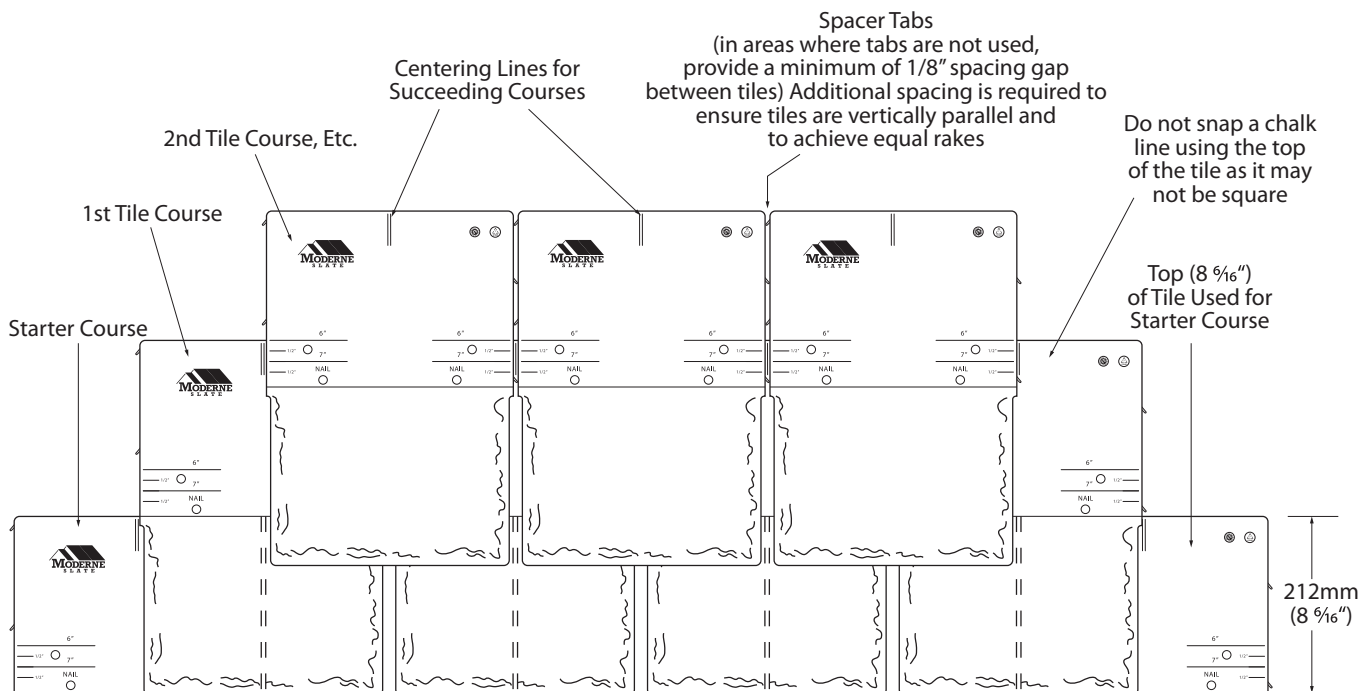

Figure 7
**IMPORTANT REMINDER:** It is recommended that you stop occasionally and view the installation from the ground level to ensure that the desired aesthetic and visual effect is being achieved. (See Figure 7.)